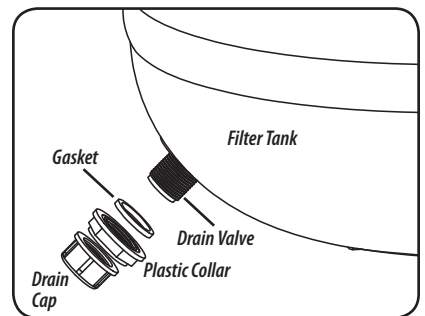

Figure 3
1. Installing the drain valve. See Figure 3.